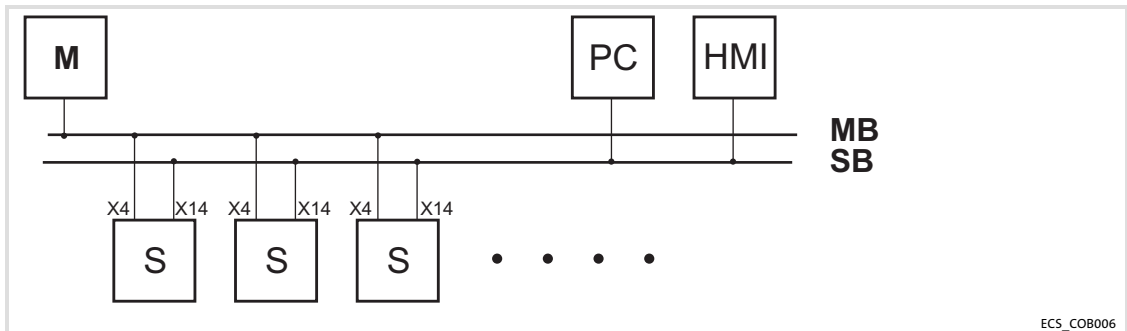

Fig.5-13 MotionBus (CAN) with master control
- ▶ In Fig.5-13 a higher-level control assumes the function of the master, e.g. ETC.